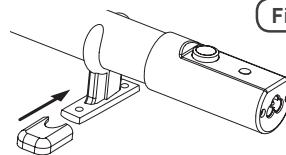

Fig.7
- Attach rubber boots to the feet of the bracket [Fig.7] to increase stability.